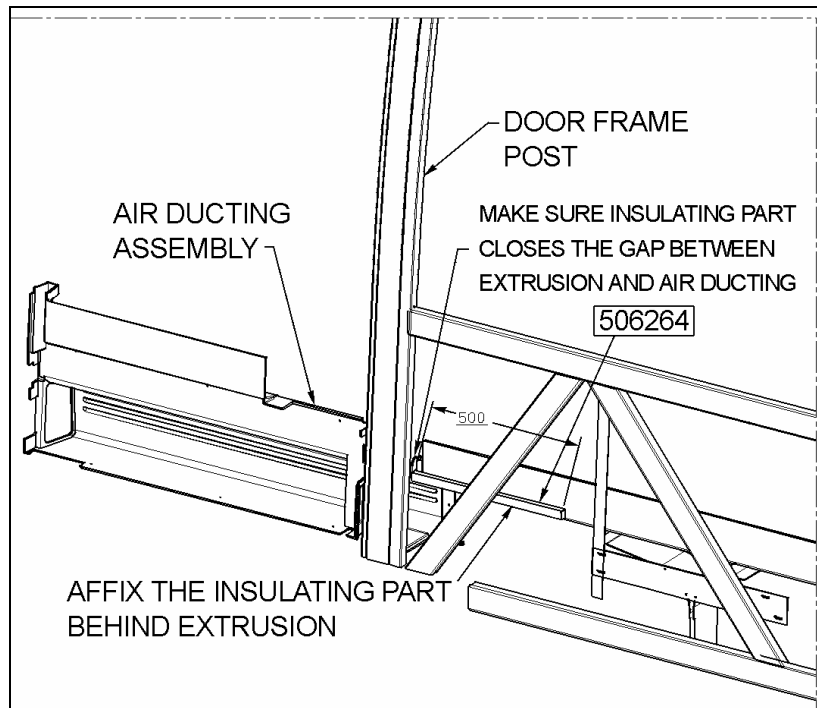

FIGURE 5
- 6) Fix front wall insulating part (506264) behind the extrusion as indicated in figure 5.